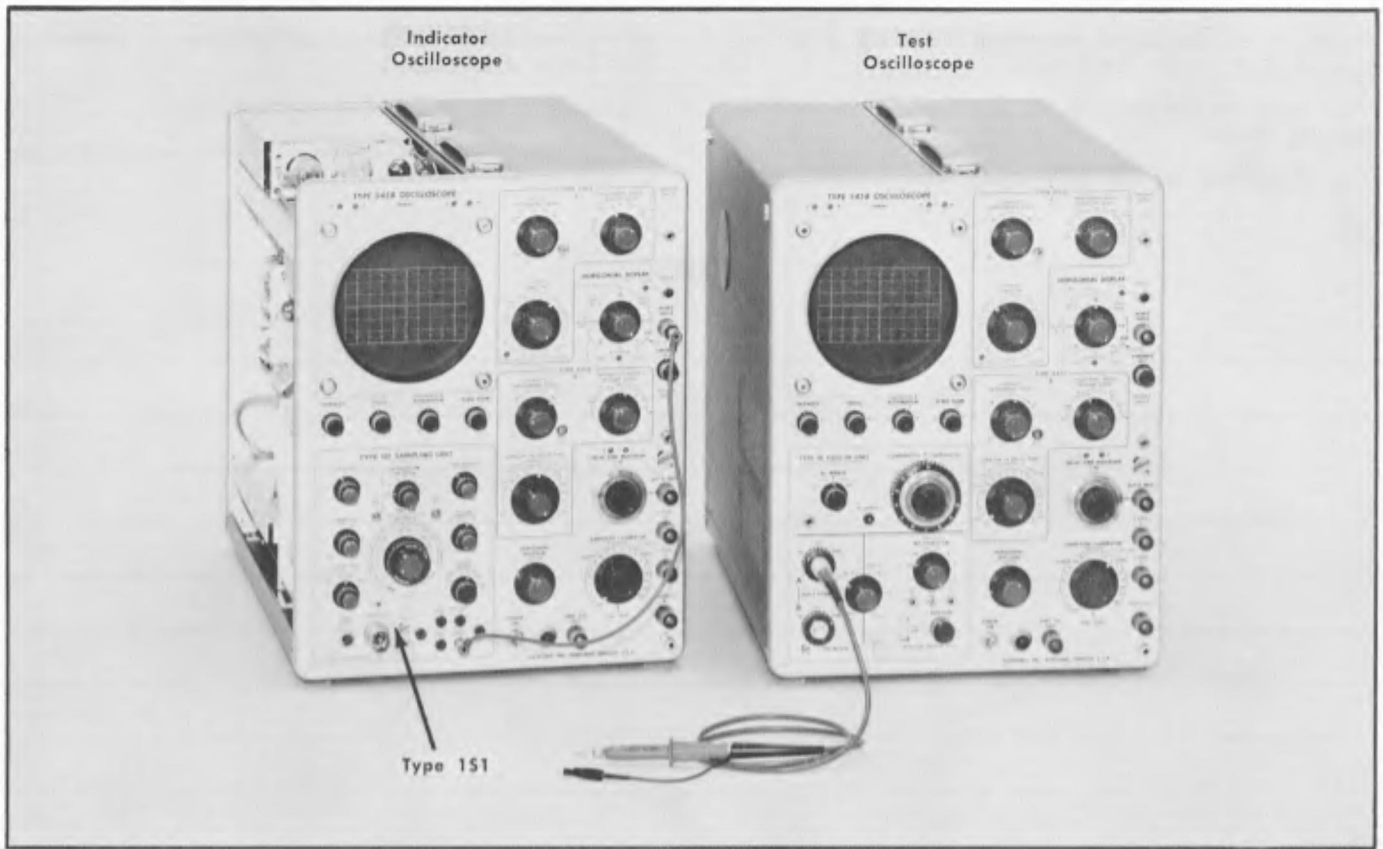

Fig. 5-43. Initial test equipment setup for steps 27 and 28.
- a. Test equipment setup is shown in Fig. 5-43.